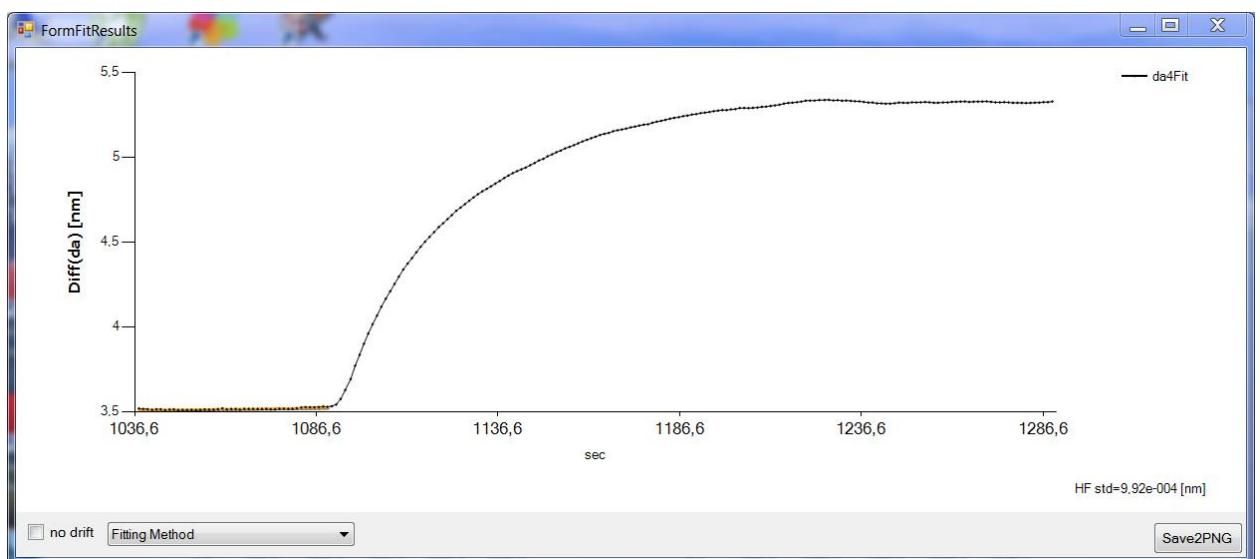
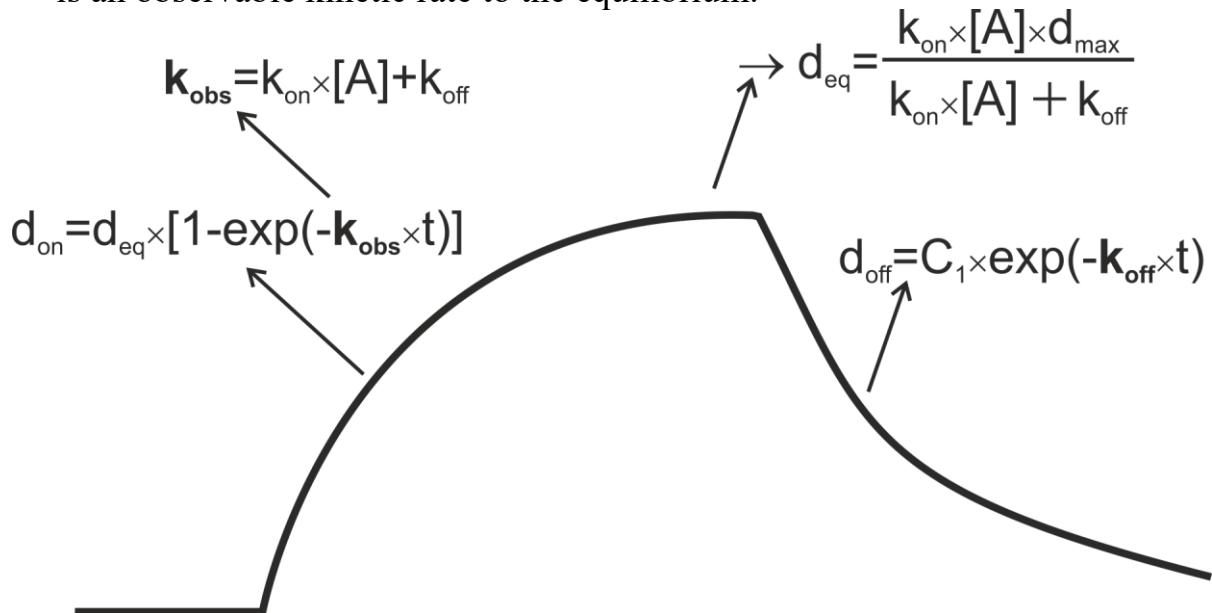

Figure 15. Form for fitting selected part of data.
Figure 18. A schematic kinetic curve showing association and dissociation phases.
The selected portion of data points will be opened in a separate window, 'FormFitResults' (see **Figure 15**), where a fitting method may be chosen. There are several fitting methods in the program. All of these are illustrated in **Figure 16**. The internal details of the fitting process may be found in the 'FittingOutput' window, presented in **Figure 17**.
Several kinetic models for data fit may be chosen in the ‘FormFitResults’ window (Figure 15). In Figure 16, one can see available models (A-D) for fit. The main model is a Langmuir model (with and without drift – (B) in Figure 16). In this model (schematically illustrated in Figure 18):